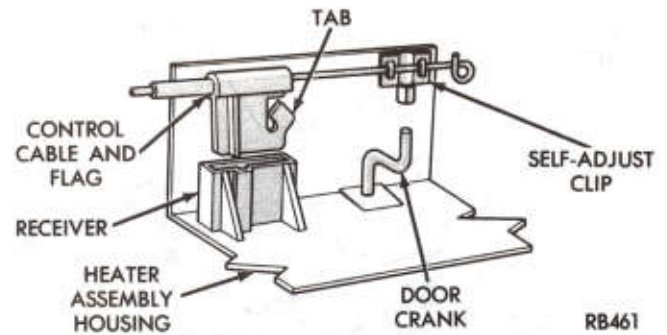
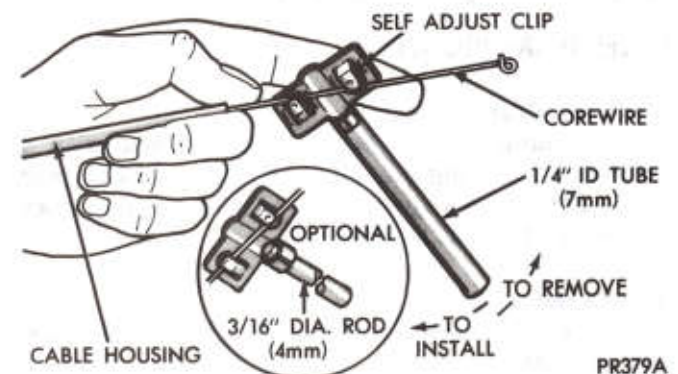

Fig. 6—Removing Cables from Unit
Fig. 7—Removing or Installing Self-Adjust Clip
- (5) Detach cables from unit by removing self adjust clips from crank arms and removing flags from retainers (Fig. 6).
- (6) Remove cable assemblies through glovebox opening.
- (7) Place a 7mm (1/4 inch) I.D. tube over clip and pry self-adjust clip off core wire if required (Fig. 7).